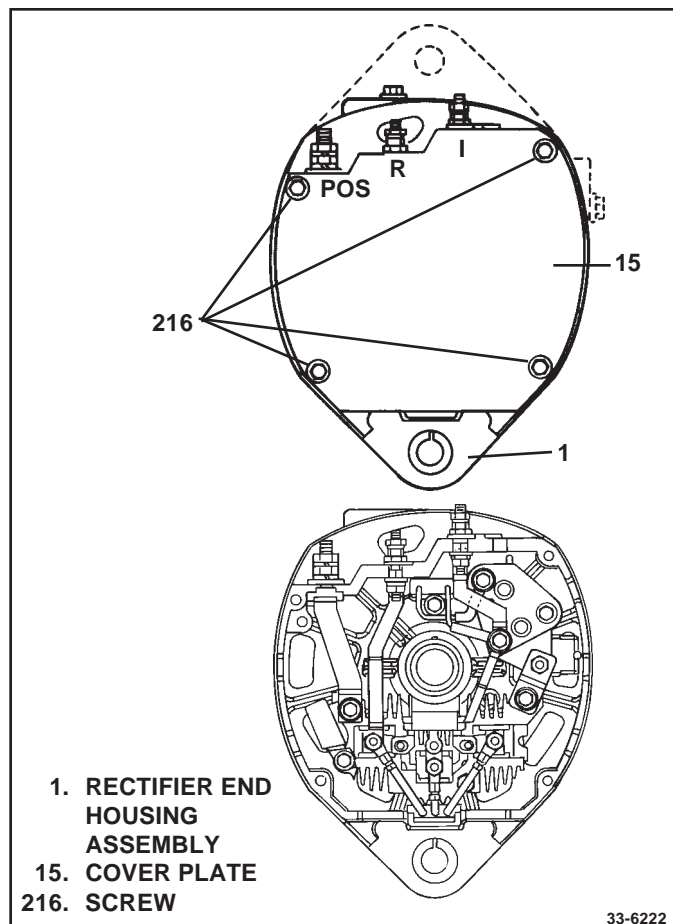

Figure 12. Electronics Compartment
1. Remove screws (216) and rectifier end plate (15) to expose electronics compartment. (See Fig. 12)